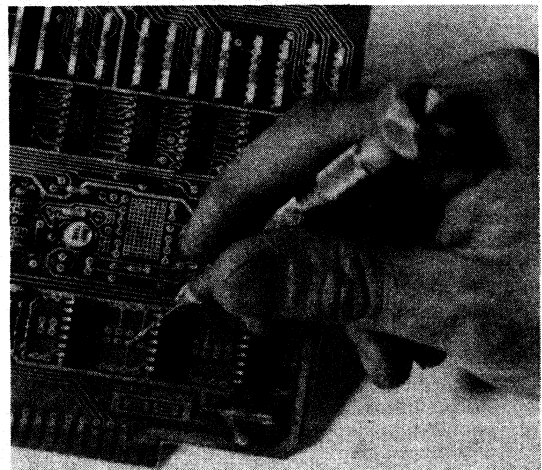

FIGURE 2. Drilling Out Plated-Through Holes.
**W18-W41\*** These jumpers are used to select the eight most significant bits of the board address if changed from F7 as set at the factory. Changing the address requires drilling out plated-through hole W\* jumpers and installing W jumpers. A # 54 drill (0.055"/1.4mm) should be used for drilling out plated jumpers. Exercise caution to prevent damage to the board. Carefully remove any metal particles deposited on the board's surface. See Figure 2.